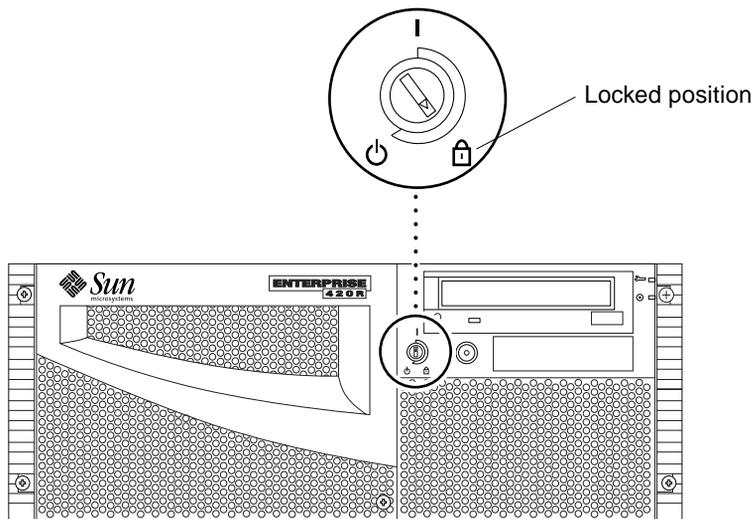

FIGURE 6-6 Setting the Locked Position
4. Turn the key switch to the Locked position (FIGURE 6-6).